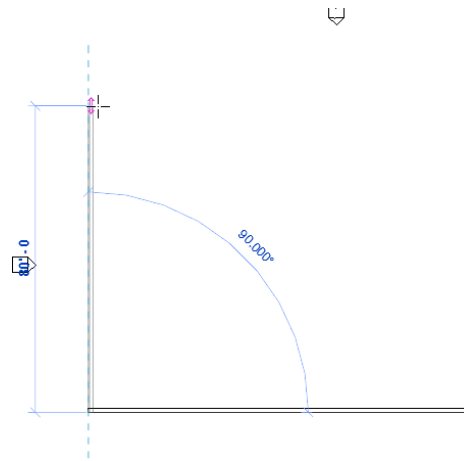

FIGURE 1.20: How Revit Architecture works is evident in this procedure.
4. With the Wall command still running, move your cursor straight up from the endpoint of your 100'-long wall. Look at Figure 1.20.